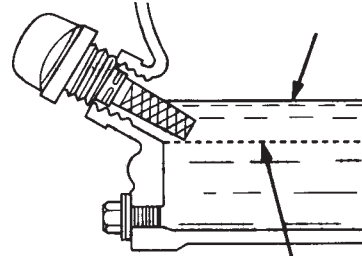

Figure 6. Engine Oil Dipstick (Oil Level)
4. If the oil level is low (Figure 6), fill to the edge of the oil filler hole with the recommended oil type (Table 3). Maximum oil capacity is 1.16 quarts (1.1 liters)